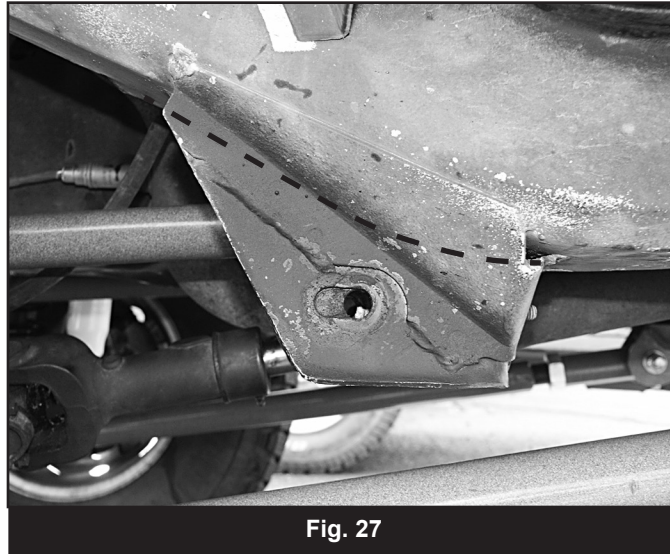

Fig. 27
1. Mark a cut line on the two lower control arm pockets that follow the contour of the frame (Fig 27). Using a reciprocating saw or cut-off wheel remove the pocket from the frame. Take care not to cut into the frame.